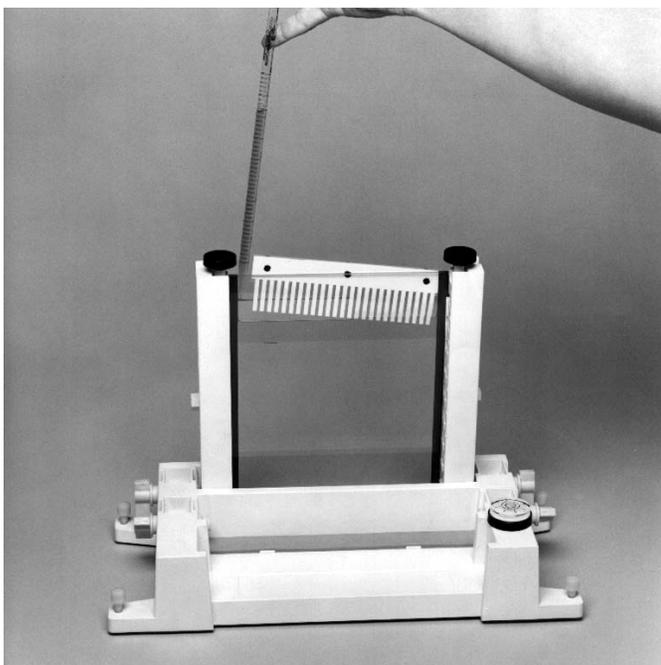

Fig. 4.20. Pouring a CDGE gel.
- Insert a comb in the gel sandwich and tilt it so the teeth are at a slight angle. This will prevent air from being trapped under the comb teeth when pouring the gel solution (Figure 4.20).